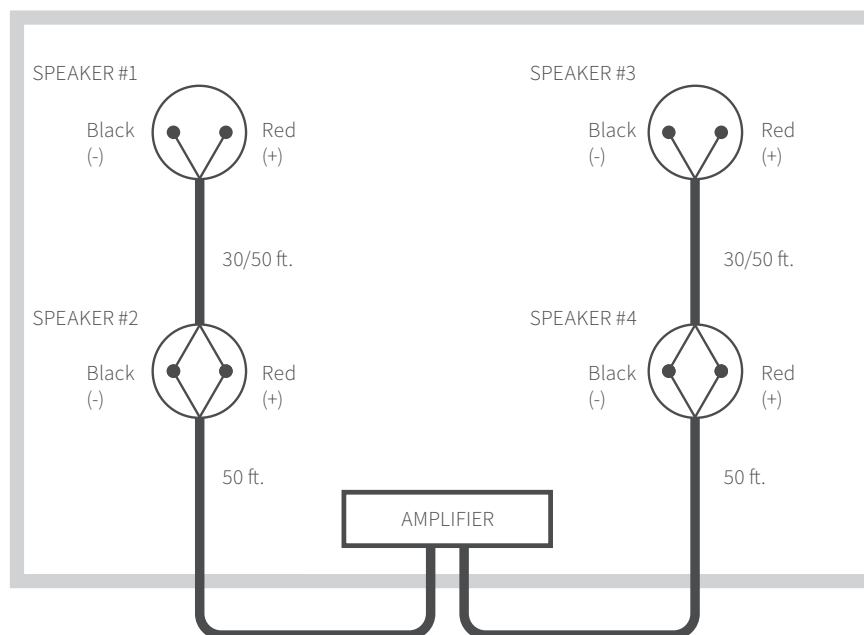

FIGURE 5:
1. Distribute the appropriate lengths of wire to each speaker (see figure 5). There should be (2) 30 ft lengths of wire between two pairs of speakers. There should be (2) 50 ft lengths of wire for home runs back to the amplifier.
4. Route the speaker wire through the conduit hardware and attach to the speaker terminals by twisting the speaker wire and speaker pigtails together, securing with the included wire nuts. Be sure to maintain proper polarity (see figure 5).
8. Route speaker #1 wire and speaker #2 wire (50ft if ordered) through the conduit hardware and attach to the speaker terminals by twisting the speaker wire and speaker pigtails together, securing with the included wire nuts. Be sure to maintain proper polarity (see Figure 5).